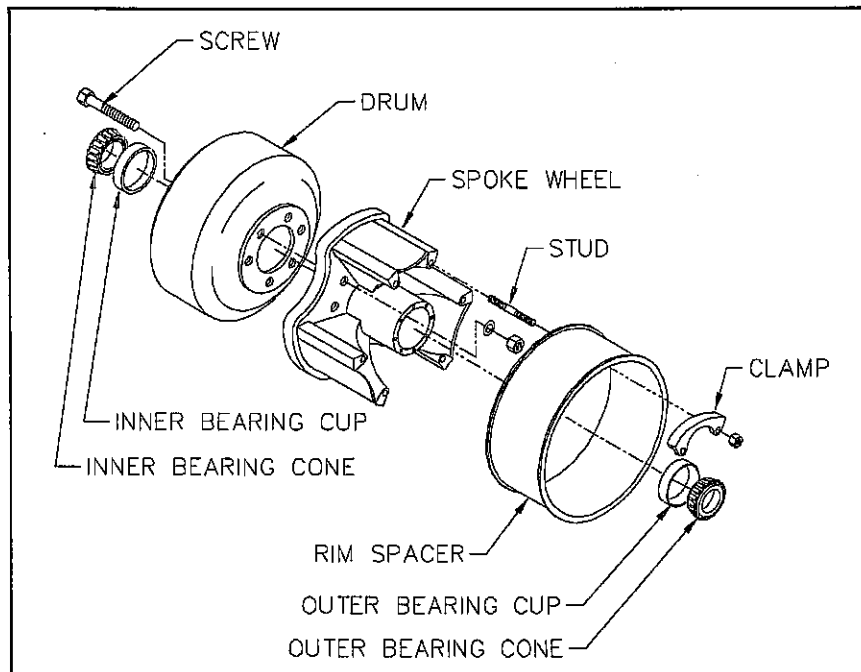
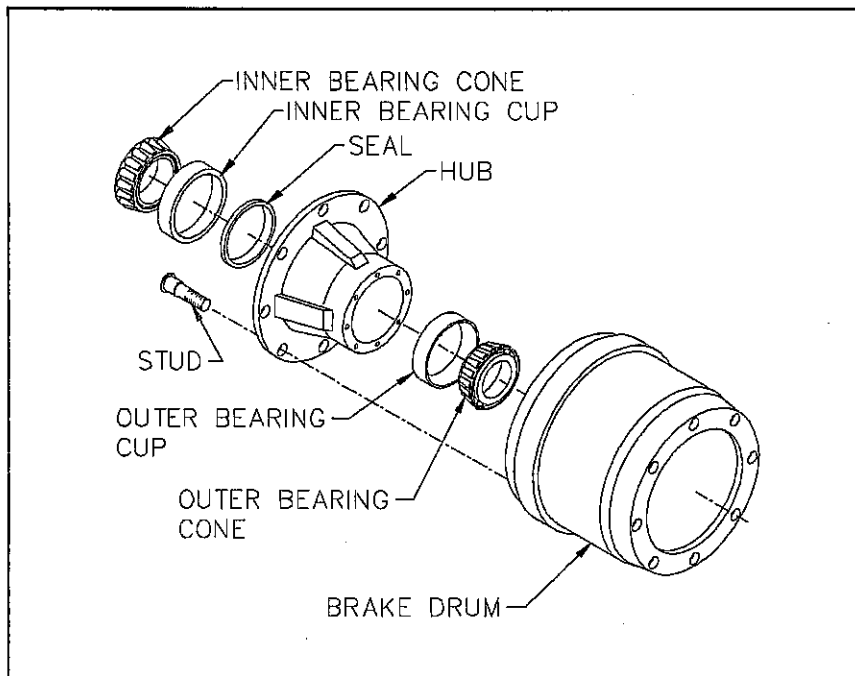
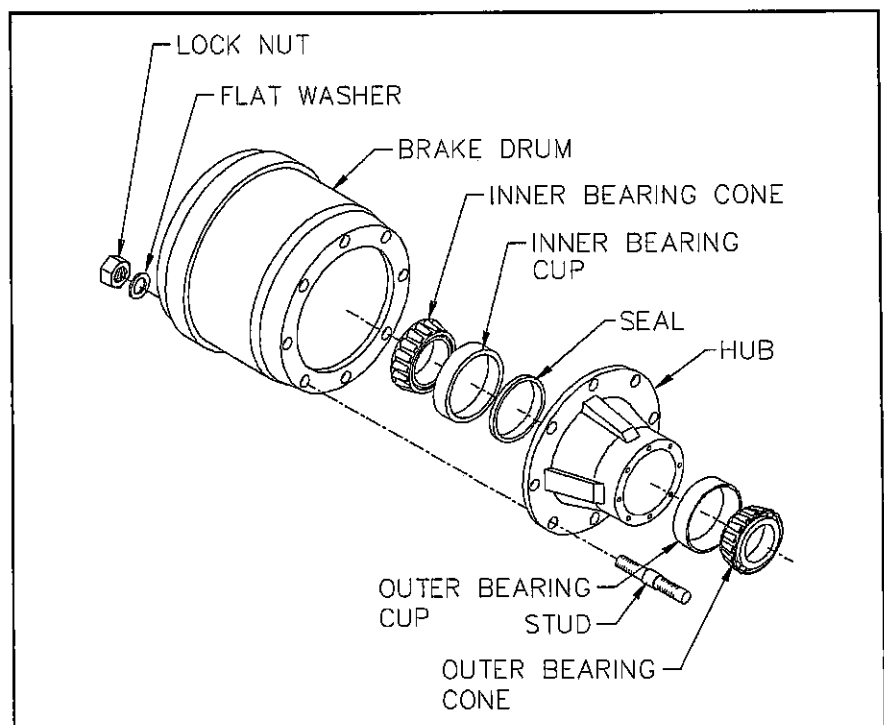

Figure 4-13 Three Spoke Wheel and Drum
Figure 4-14 Outboard Mount Hub and Drum
Figure 4-15 Inboard Mount Hub and Drum
4-10.4 Replace the hub and drum as follows (see Figure 4-14, 4-15 and 4-13):
a. For outboard mount hub and drum remove the brake drum (see Figure 4-14). It may be necessary to release the slack adjuster. For inboard mount (see Figure 4-15) and spoke wheel (see Figure 4-13) remove drum after hub.
s. For Outboard Mounted Brake Drum (see **Figure 4-14**) place the drum over the hub and brake shoes being careful not to damage the threads on the studs. Make sure the drum seats flat against the hub flange and mates properly with the hub pilot. There should be no interference between the brake drum pilot chamfer and the corner radius on the hub. If interference exists, the hub will not be able to function properly.